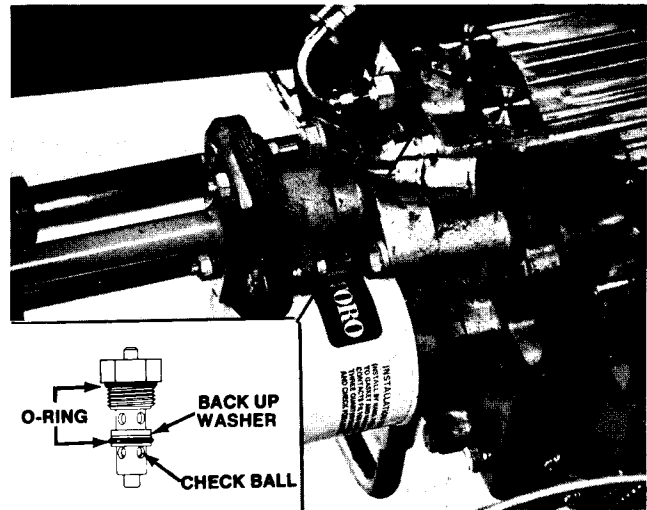

Figure 35
2. Remove each valve assembly from the center section of the transmission by unscrewing it counterclockwise (Fig. 35). Some oil may flow into the drain pan. Clean the valves in clean solvent.
7. With the bypass button released and the check ball seated, stand the valve upright and load a small amount of solvent into one of the upper series of holes (Fig. 35). Allow the solvent to remain for 15 minutes, during which time there should be no leakage of solvent from the valve. Since these valves have no internal repair parts available, replace any leaking valves.